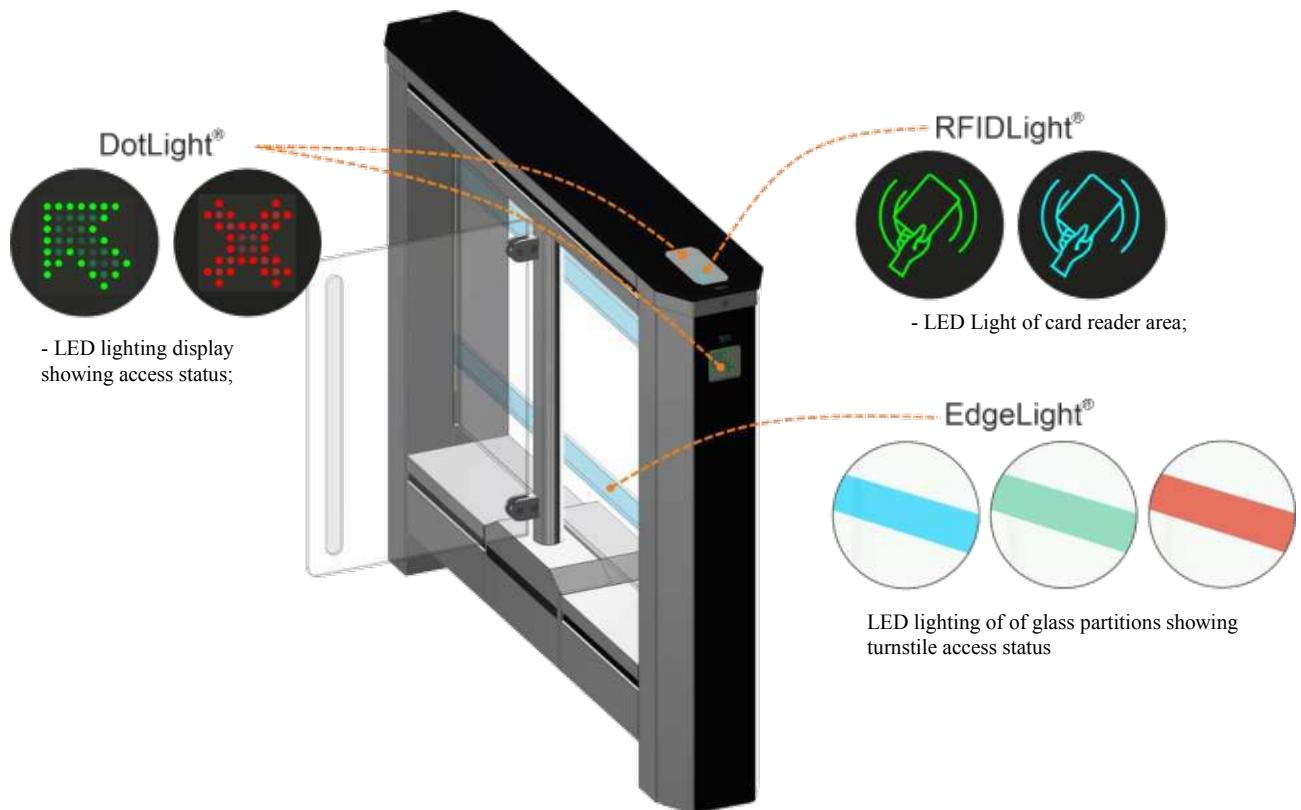

Fig. 7 – Light indication of the turnstile status
1.4.1 Turnstile design (See Fig. 7)
The cabinet operating mechanism is shown in Figure 7. The lock solenoid 2 provides reliable mechanical locking of swing leaf in closed position.